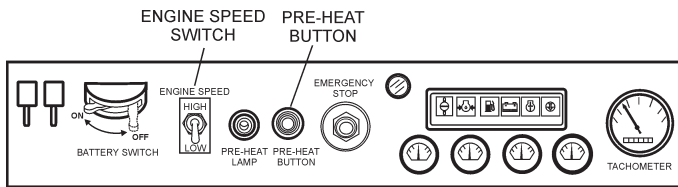

Figure 59. Engine Operating Panel S/N 3699248~
Steps 20 thru 26 are referenced for Engine Operating Panel S/N 3699248~. See Figure 59 below. This panel does not have an ignition switch. It does have a "*pre-heat button*" and a "*engine speed switch*" that is used in conjunction with the MPEC unit.
21. Press and hold the engine preheat button (Figure 59) until the preheat lamp is lit (**ON**).